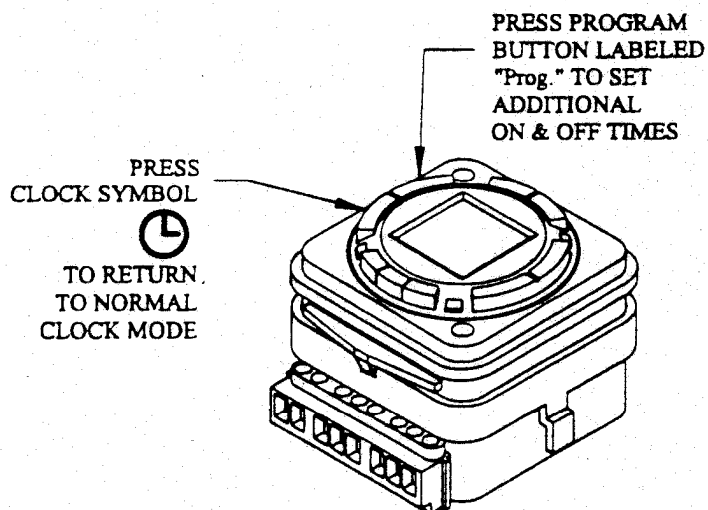

FIG. 8
STEP 6. Press program button and repeat previous steps to enter additional programs of on and off times, or press the clock symbol to return to normal clock mode. See Fig. 8.